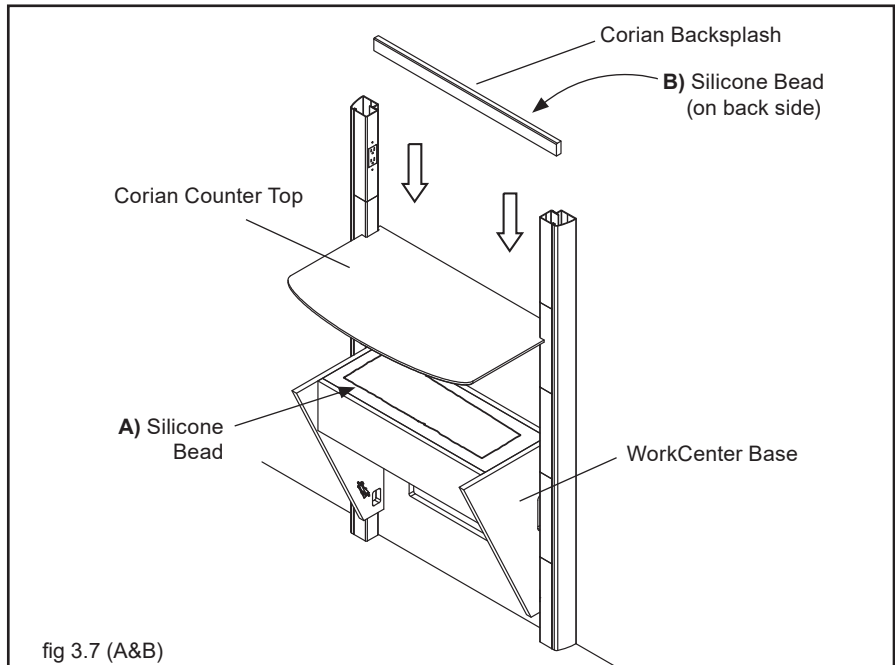

fig 3.7 (A&B)
1. Apply a bead of Silicone to top of WorkCenter Base as shown in figure 3.7.A. Press Corian Counter top down firmly and flush to the Side Posts. (Any gap to the wall will be covered by the back-splash.)
2. Apply a bead of silicone to the back of the back-splash, and press firmly against the wall – between the Side Posts and flush to the Counter Top (fig. 3.7.B).